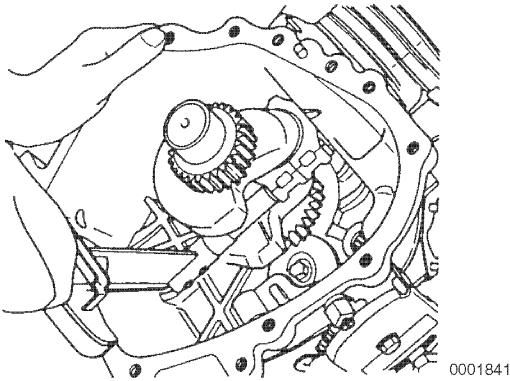

Figure 6-97
7. Apply a light coat of clean engine oil to the rod cap bolts. Install the connecting rod cap. Tighten the connecting rod bolts **Figure 6-97** to the specified torque in two stages as shown in chart below. See *Special Torque Specifications on page 6-18* for specifications.